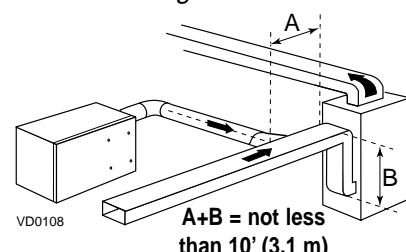

figure 10
- Connect this opening to the fresh air distribution port of the HRV/ERV (see figure 10).